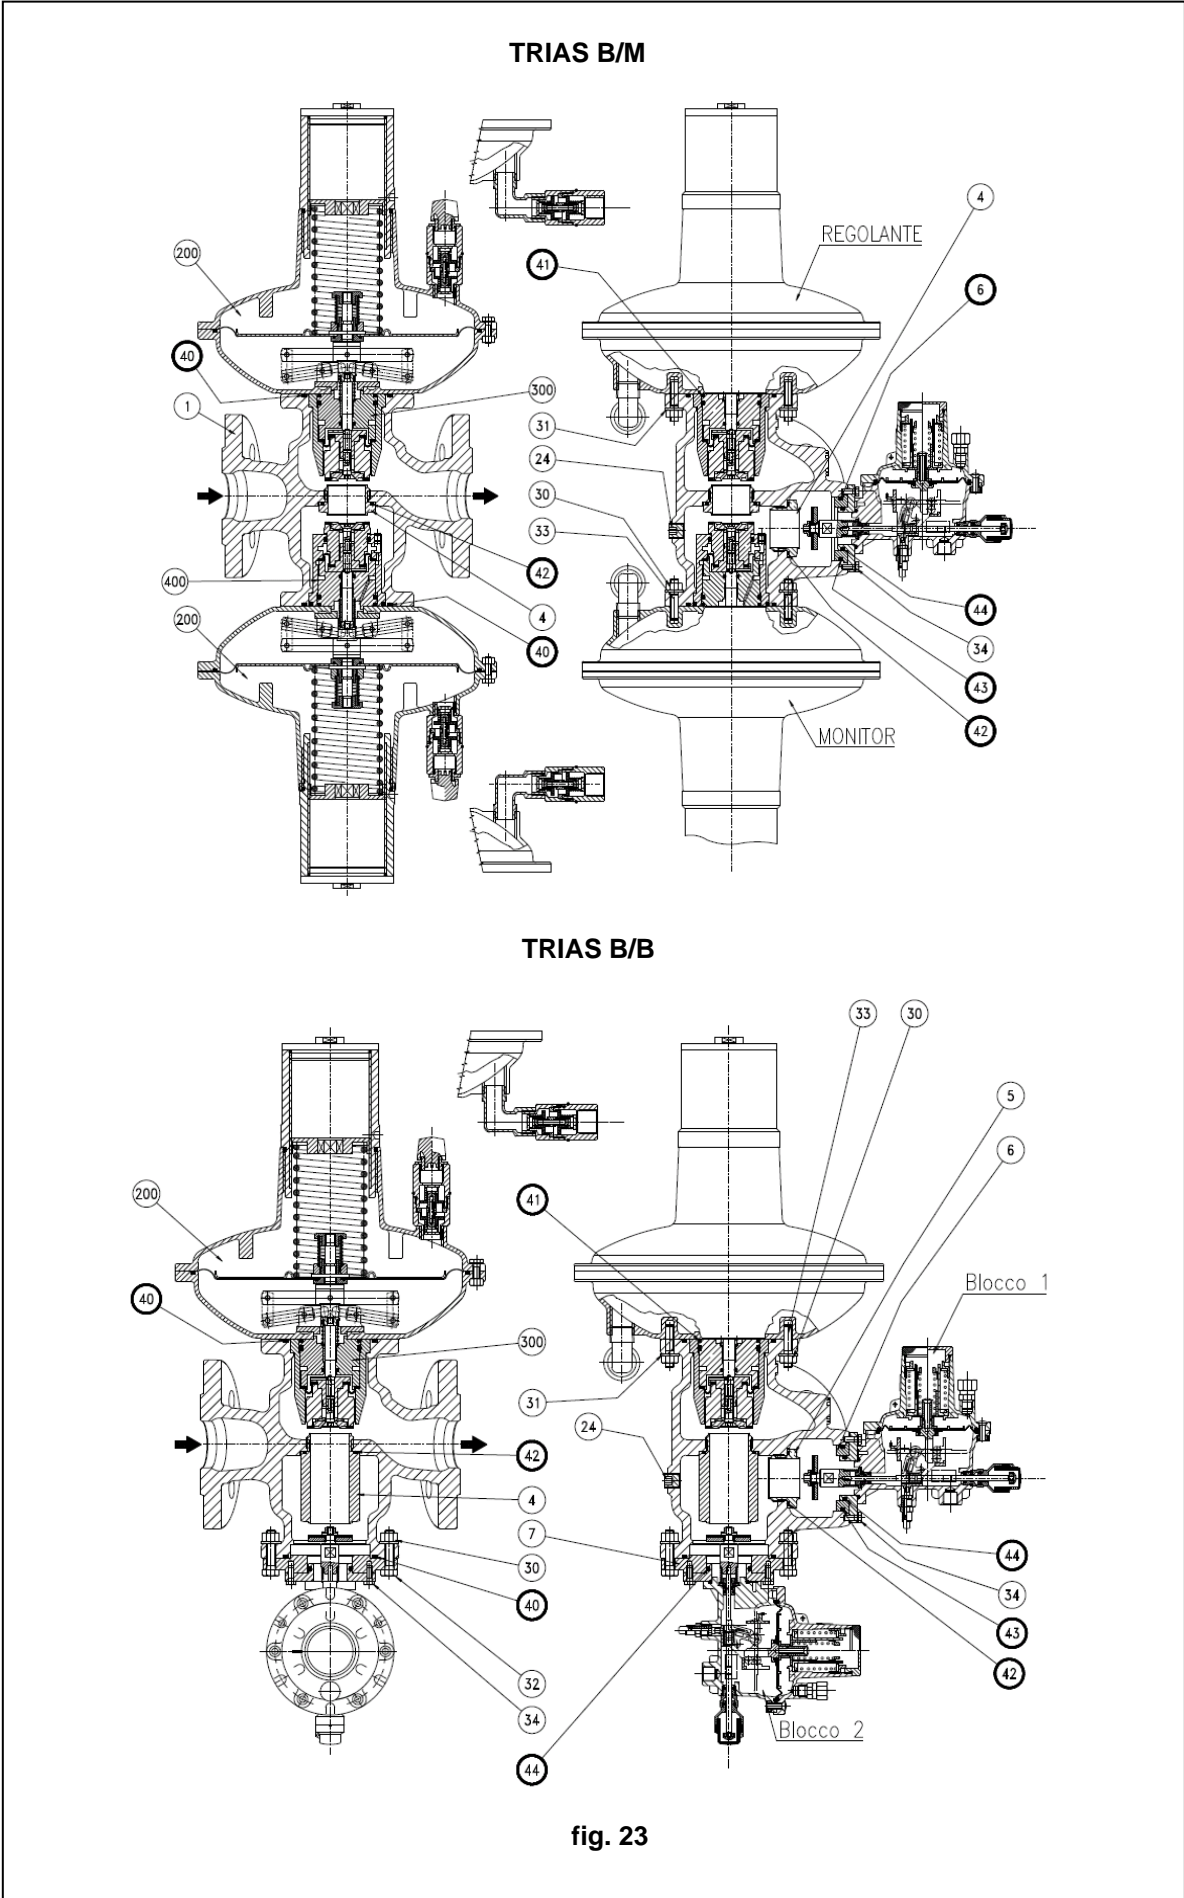

fig. 23
It is recommended to replace all rubber parts; for this purpose, use the specific Spare parts kit highlighted with black circled dots in figures 23, 24, 25, 26, 27, 28.
- 7) Unscrew nuts (30) and separate the lower cover (17) from the body (1) (fig23).
- 8) Remove the balancing unit, consisting of the plug guide (4) and the parts contained therein (fig26), from the body (1)(fig.23).
- 10) Unscrew the valve seat (4)(fig.23) from the body, taking great care not to damage the sealing edges.
We reiterate the utmost care that must be taken when handling the valve seat (4) (fig.23), in order not to damage the sealing edges.
- 7) Unscrew nuts (30) and separate the lower cover (17)(fig.24-25) from the body (1)(fig23).